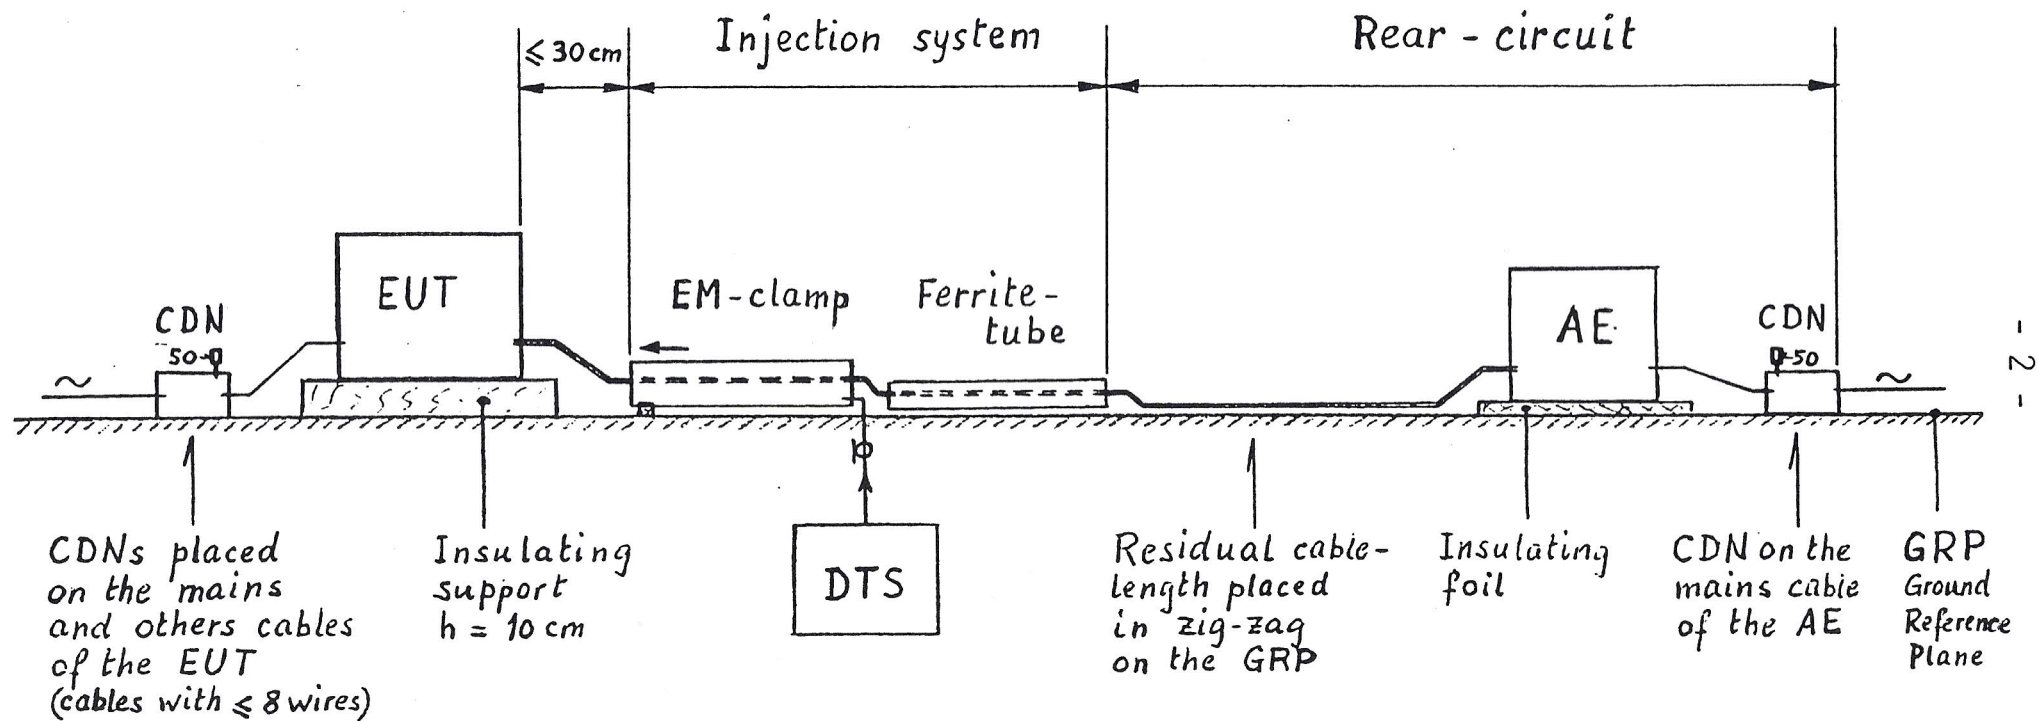

Fig. 1: Test set-up applicable for all immunity tests using the EM-clamp, in the frequency range 1 MHz to 400 MHz.
Investigations performed at the Swiss PTT show that a ferrite tube of high permeability, placed directly at the rear side of the EM clamp, improves the reproducibility of the immunity tests and efficiently decouples the auxiliary equipment (AE). This setup is shown in figures 1 and 1a.
With the setup of fig. 1 the influence of the rear circuit (AE impedance, length and layout of the cable) on the injection to the EUT-side does usually not exceed ± 3 dB, with respect to the values during calibration, in the frequency range 1 MHz...400 MHz (see fig. 3 and 4). Consequently in this frequency range the setup of fig. 1 may be used for any type of AE and cabling.
Fig. 5a shows the decoupling obtained for the AE using the setup of fig. 1 in the case of a short cable. This decoupling may be increased by using a long cable and, if necessary, an additional ferrite tube, directly at the AE (fig. 5b).